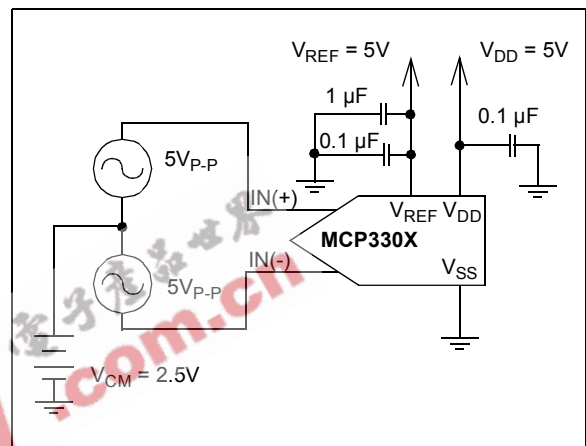

FIGURE 3-4: Full Differential Test Configuration Example.
**Full Differential Operation** - Applying a full differential signal to both the IN(+) and IN(-) inputs is referred to as *full differential operation*. This configuration is described in Figure 3-4.